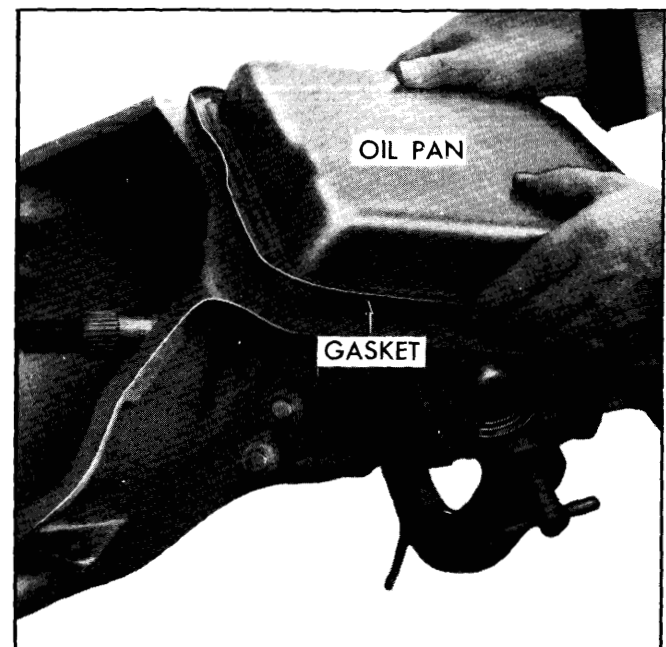

Fig. 7-16—Removing Transmission Oil Pan
9. Remove oil pan attaching screws (Fig. 7-16), oil pan, and gasket. Discard gasket.